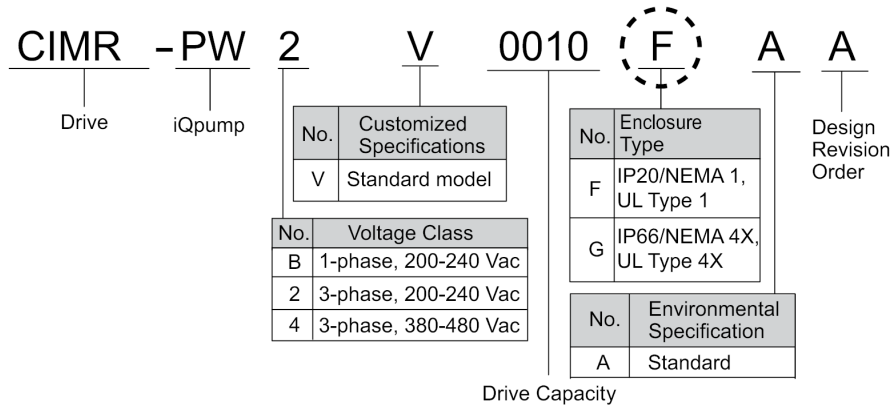

Figure 1.4 Drive Enclosure Type Identification
5.4 Identify the drive enclosure type. Use **Figure 1.4** to find the digit within the model number that identifies the enclosure type.